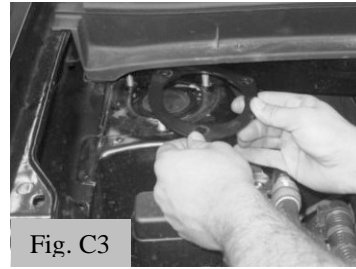

Fig. C3
- i. These will not be re-used. (Fig. C3)